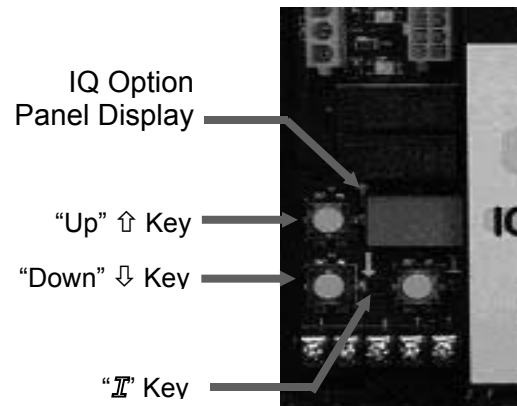

Figure 4 IQ Option Panel User Interface
1. Use the IQ Option Panel Display as shown in Figure 4.